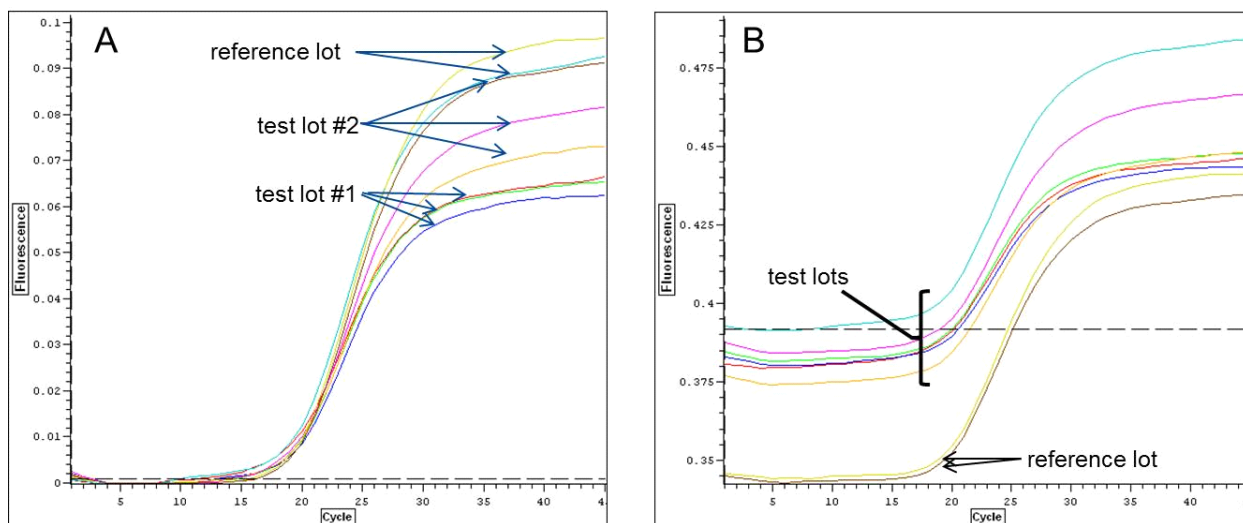

Figure 8-2: Amplification Curves Showing Test Lots and Reference Lots
- A 30% decrease in the ΔF correlates to dPCR reaction failure (Figure 8-2).